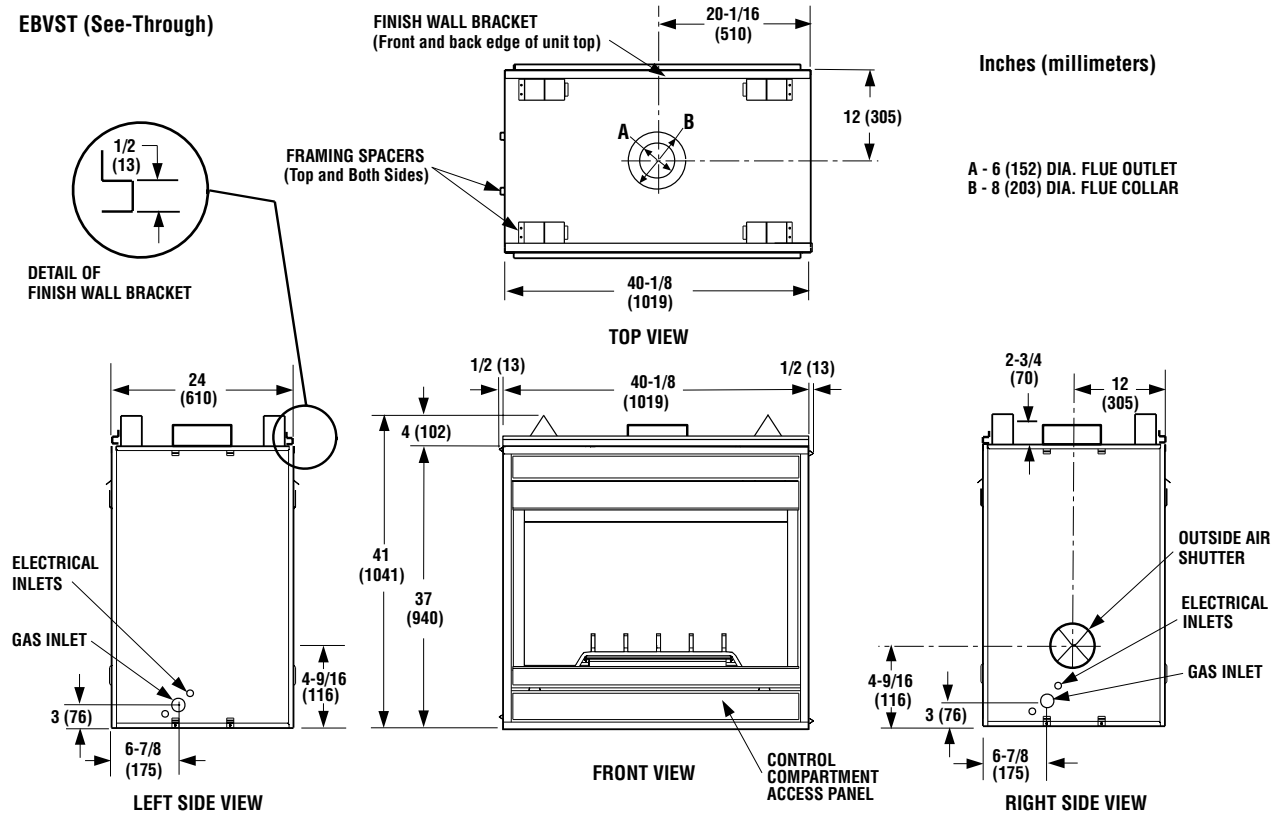
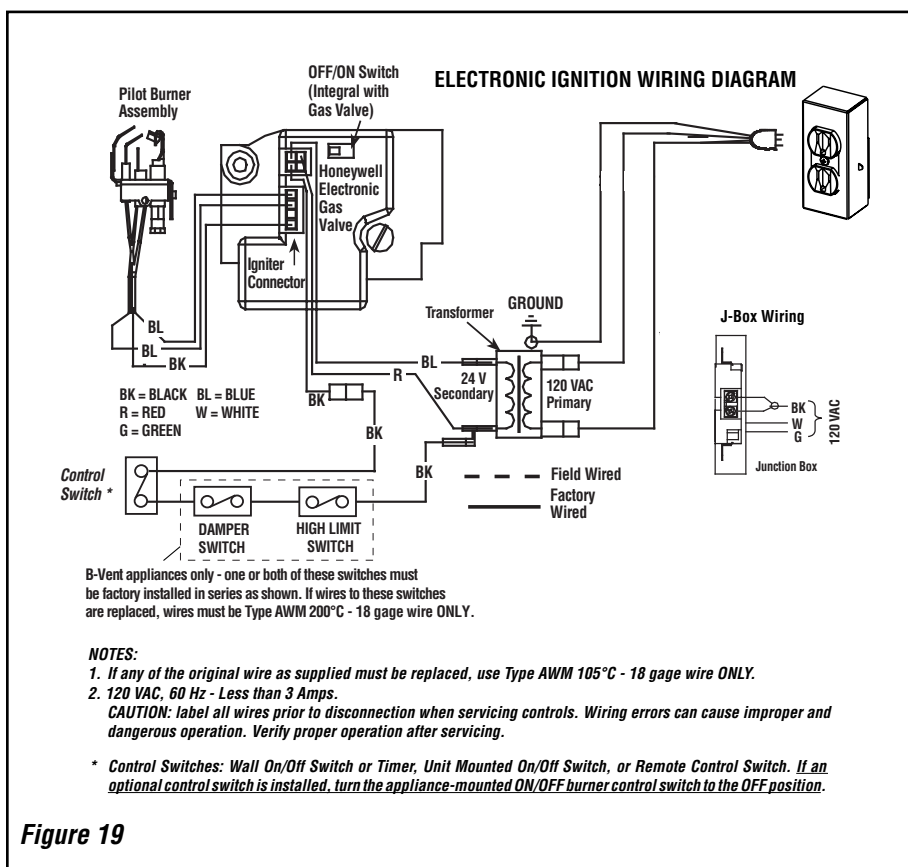

Figure 11
Figure 19
B. Electronic Wiring (See Figure 19)
6. Install the snap bushing (provided in kit) into the selected cabinet knockout opening in side cabinets (see **Figures 11, 12 and 18**). The snap bushing provides protection for the wires (see note below) passing through side cabinet going to an optional burner control switch wire in the burner control switch to the low voltage circuit as shown in **Figure 19**.
Important Note: The gas valve OFF/ON switch is shown in **Figure 19**. It is integral with the gas valve and should be set to the **ON** position.